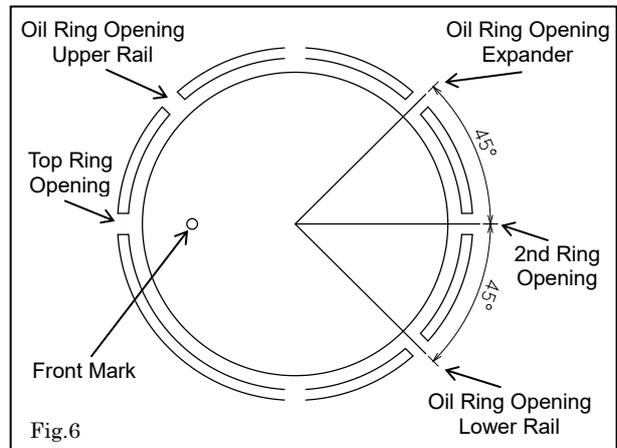

Fig.6
5.2 Adjust the position of ring opening not to come on top of other rings. (See the figure 6.)